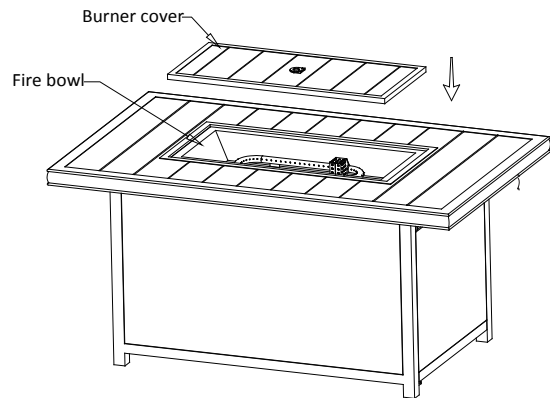

Figure 4
2. Put Burner Cover onto the fire bowl (see Figure 4).